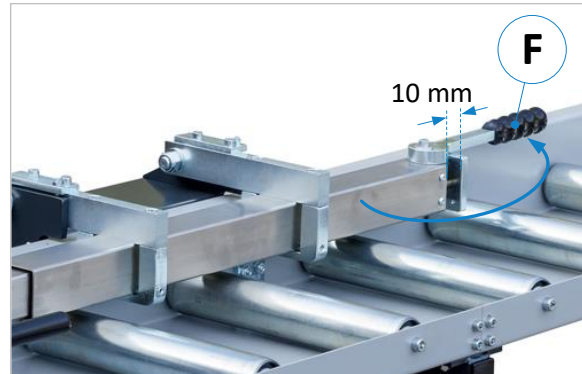

Figure 23: Lever for clearance stroke (option SZ 05)
- **Option SZ 05:** Before starting the cut, create the 10 mm clearance stroke by swivelling the eccentric lever (F) to the rear (see ⇒ Figure 23).
- **Standard:** With the handle (G) the stop arm can be folded backwards at any position.